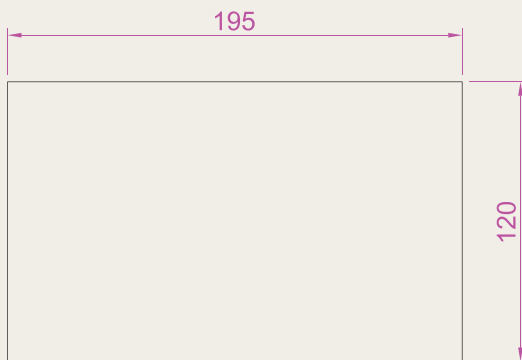

Fig. 2.29 Exercise 2
2. Construct the outline shown in Fig. 2.29 using the **Line** tool. The coordinate points of each corner of the rectangle will need to be calculated from the lengths of the lines between the corners.